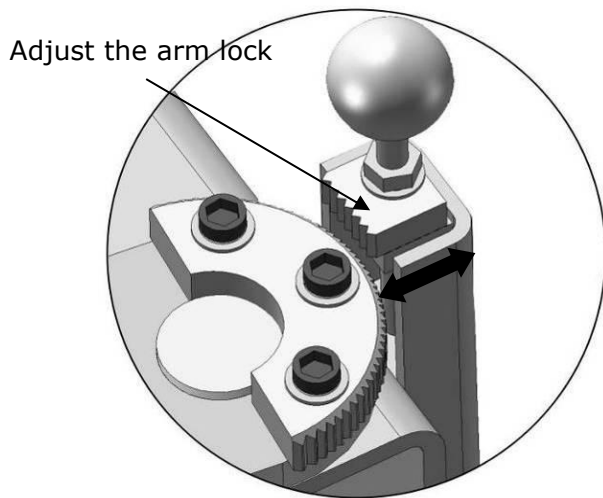

Fig. 24
3. Adjust the arm lock as arrow direction (**See Fig. 24**).